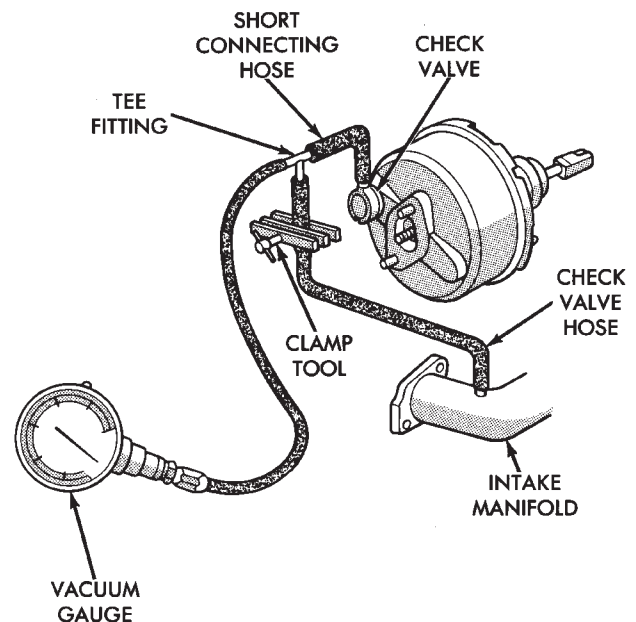

Fig. 6 Typical Booster Vacuum Test Connections
(1) Connect vacuum gauge to booster check valve with short length of hose and T-fitting (Fig. 6).
(2) Start and run engine at curb idle speed for one minute.
(3) Observe the vacuum supply. If vacuum supply is not adequate, repair vacuum supply.
(4) Clamp hose shut between vacuum source and check valve.
(5) Stop engine and observe vacuum gauge.
(6) If vacuum drops more than one inch HG (33 millibars) within 15 seconds, booster diaphragm, check valve or check valve seal/grommet is faulty.